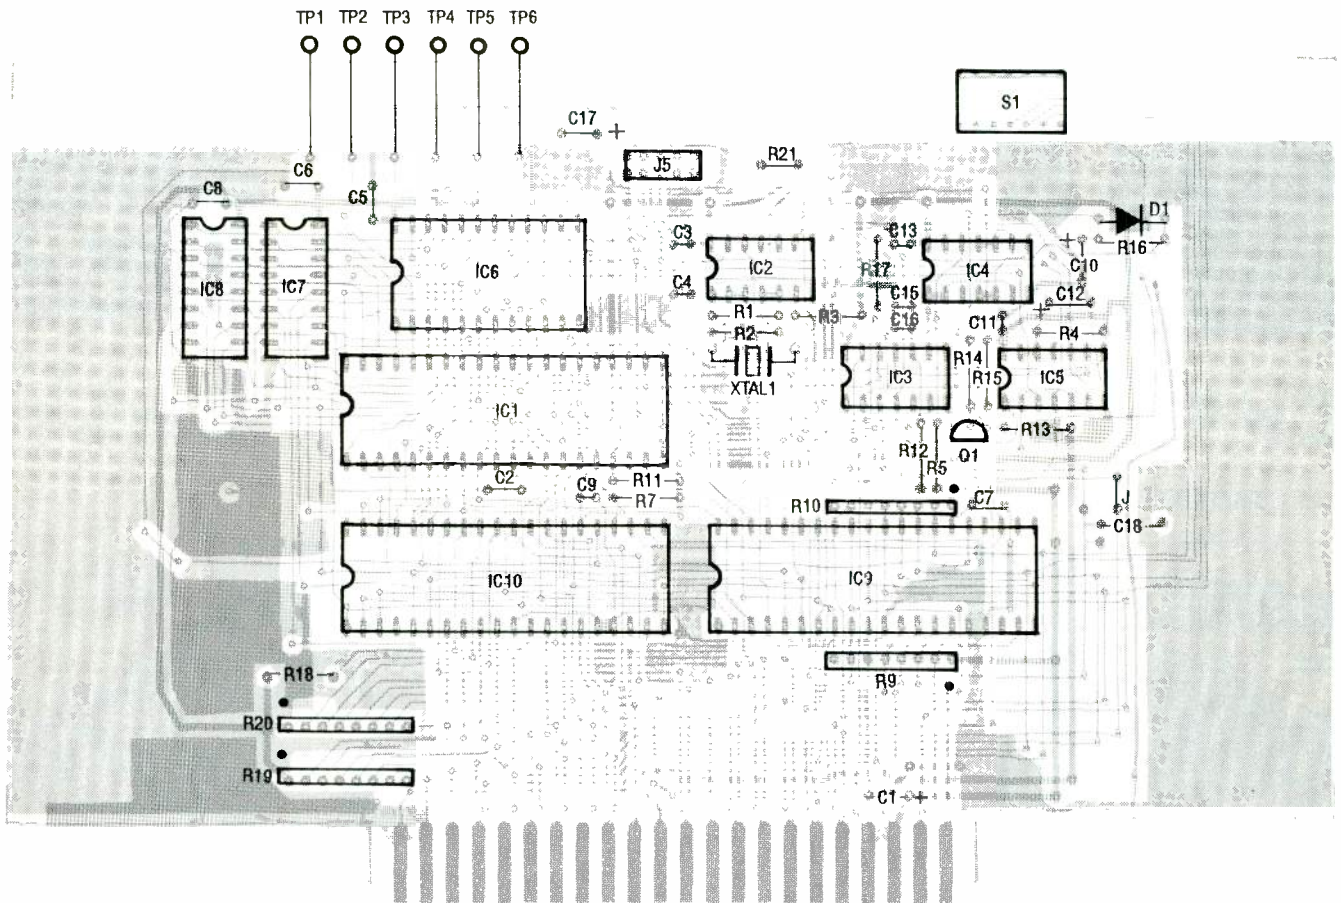

FIG. 7—ASSEMBLE THE COMPONENTS according to this parts-placement diagram.
• **A single full-wave bridge supply.** The connections for a full-wave bridge are shown in Fig. 7. Figure 7-a shows the relevant segment of the schematic, and Fig. 7-b shows the relevant segment of the parts place-
FIG. 7—A FULL-WAVE BRIDGE RECTIFIER as supply #1; (a) is the relevant segment of schematic, (b) is the relevant segment of the parts placement diagram. Remember to reverse D1–D4 for a fixed-negative version. The connections for a full-wave bridge are shown in Fig. 7, and don't forget to add JU8. You can also make supply #2 on top any version, whether positive, negative, fixed, or adjustable.